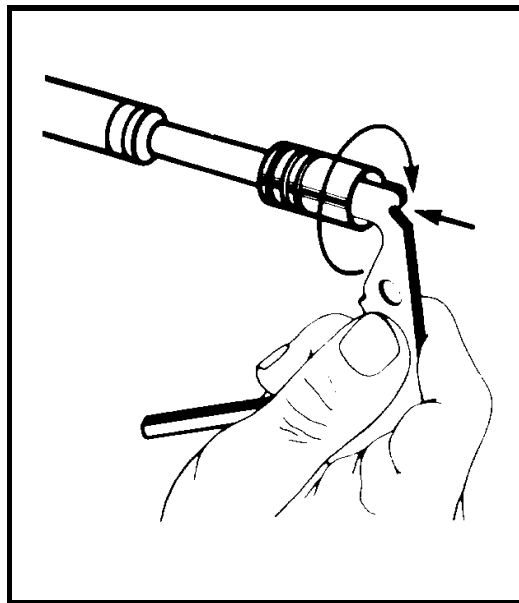

Figure 2-42 Piston Front
- (1) Clean the hole in the front of the piston with the same scraper part as the front hole of the gas cylinder (see Figure 2-42).